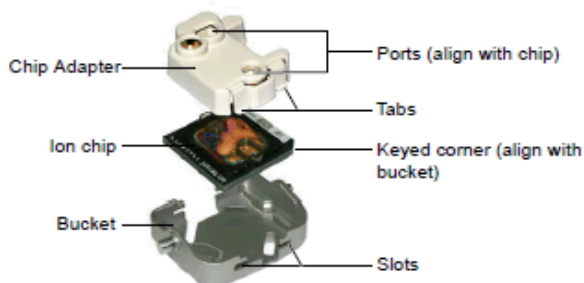

Figure 16. Chip Adaptor, Loaded Chip, and Bucket Configuration
8. **Once the Chef ExT process completes, remove** the chip adapter and loaded chip from the bucket (see figure 16).